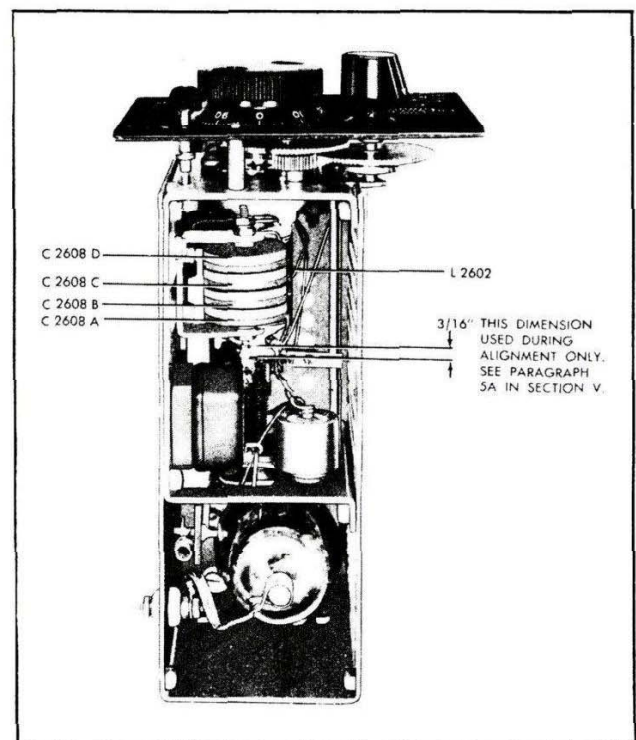

Figure 5-7. Low Frequency Oscillator
(5) Remove cover on top of L.F.O. unit by taking out screws around rim.
(6) Turn control "G" counterclockwise until revolution counter dial reads zero and control "G" will not turn any further. Operate corrector knob so that index line is directly above the center of control "G" even though it no longer points to zero line on the control.
(7) Measure the length of tuning slug that extends out of the rear end of inductor L2602. This dimension should be $3/16$ " (see dimension shown in figure 5-7). If the slug extends out by this amount, no change in slug position is required and the following steps No. 8, 9, and 10 may be omitted—proceed with step No. 11. If the slug is incorrectly set, proceed with step No. 8.
(9) Hold gear train in dial drive mechanism, so that it cannot rotate. Then rotate control "G" until tuning slug in inductor L2602 extends $3/16$ " out of the rear of the coil form (see dimensions shown in figure 5-7).
(10) Retighten Bristo setscrews in small spur gear.
(11) Loosen two setscrews in control knob "G" and holding the gear train stationary, set knob so that zero mark lines up with the index line. Then retighten setscrews in the knob.
(12) Set control "G" to read exactly 1964.0 (this is dial setting shown in calibration table 6-9 for frequency of 600 Kc). Approach setting in a clockwise direction.
(13) Replace shield cover on top of low frequency oscillator unit. Operate power level switch to CALIBRATE position.
(14) Connect headphones to sidetone output jack.
(15) While listening to sidetone output, adjust trimmer condenser C2608A (see fig. 5-7 and note that trimmer can be reached through slot in shield cover of LFO unit). Until zero beat is obtained between the output of the calibration oscillator in the CFI unit. These trimmer condensers are adjusted by changing the position of the small "pronged" metal lip that projects out from the side of the rounded edge of the capacitor.
(16) The alignment of band 3 is now complete. Rotate control "F" to band 2 (285 to 415 Kc).
(17) Set control "G" to read exactly 1055.0 (this is dial setting shown in calibration table 6-9 for frequency 350 Kc). Approach setting in a clockwise direction.
(18) While listening to sidetone output (in headphones), adjust capacitor C2608B (see fig. 5-7) until "zero beat" is obtained between output of low frequency oscillator and calibration oscillator in CFI unit.
(19) The alignment of band 2 is now complete. Rotate control "F" to band 1 (200 to 285 Kc).
(20) Set control "G" to read exactly 1216.8 (this is dial setting shown in calibration table 6-9 for frequency of 250 Kc). Approach setting in a clockwise direction.
(21) Listen to sidetone output and obtain "zero beat" by adjusting either or both trimmer capacitors C2608C and C2608D (see fig. 5-7).
(22) Alignment of band 1 is now complete. Check excitation over entire range on all three bands by rotating control "G" through 20 revolutions and observing P.A. GRID reading. The excitation should be nearly uniform over entire frequency range and P.A. GRID meter should read between 90 and 120.